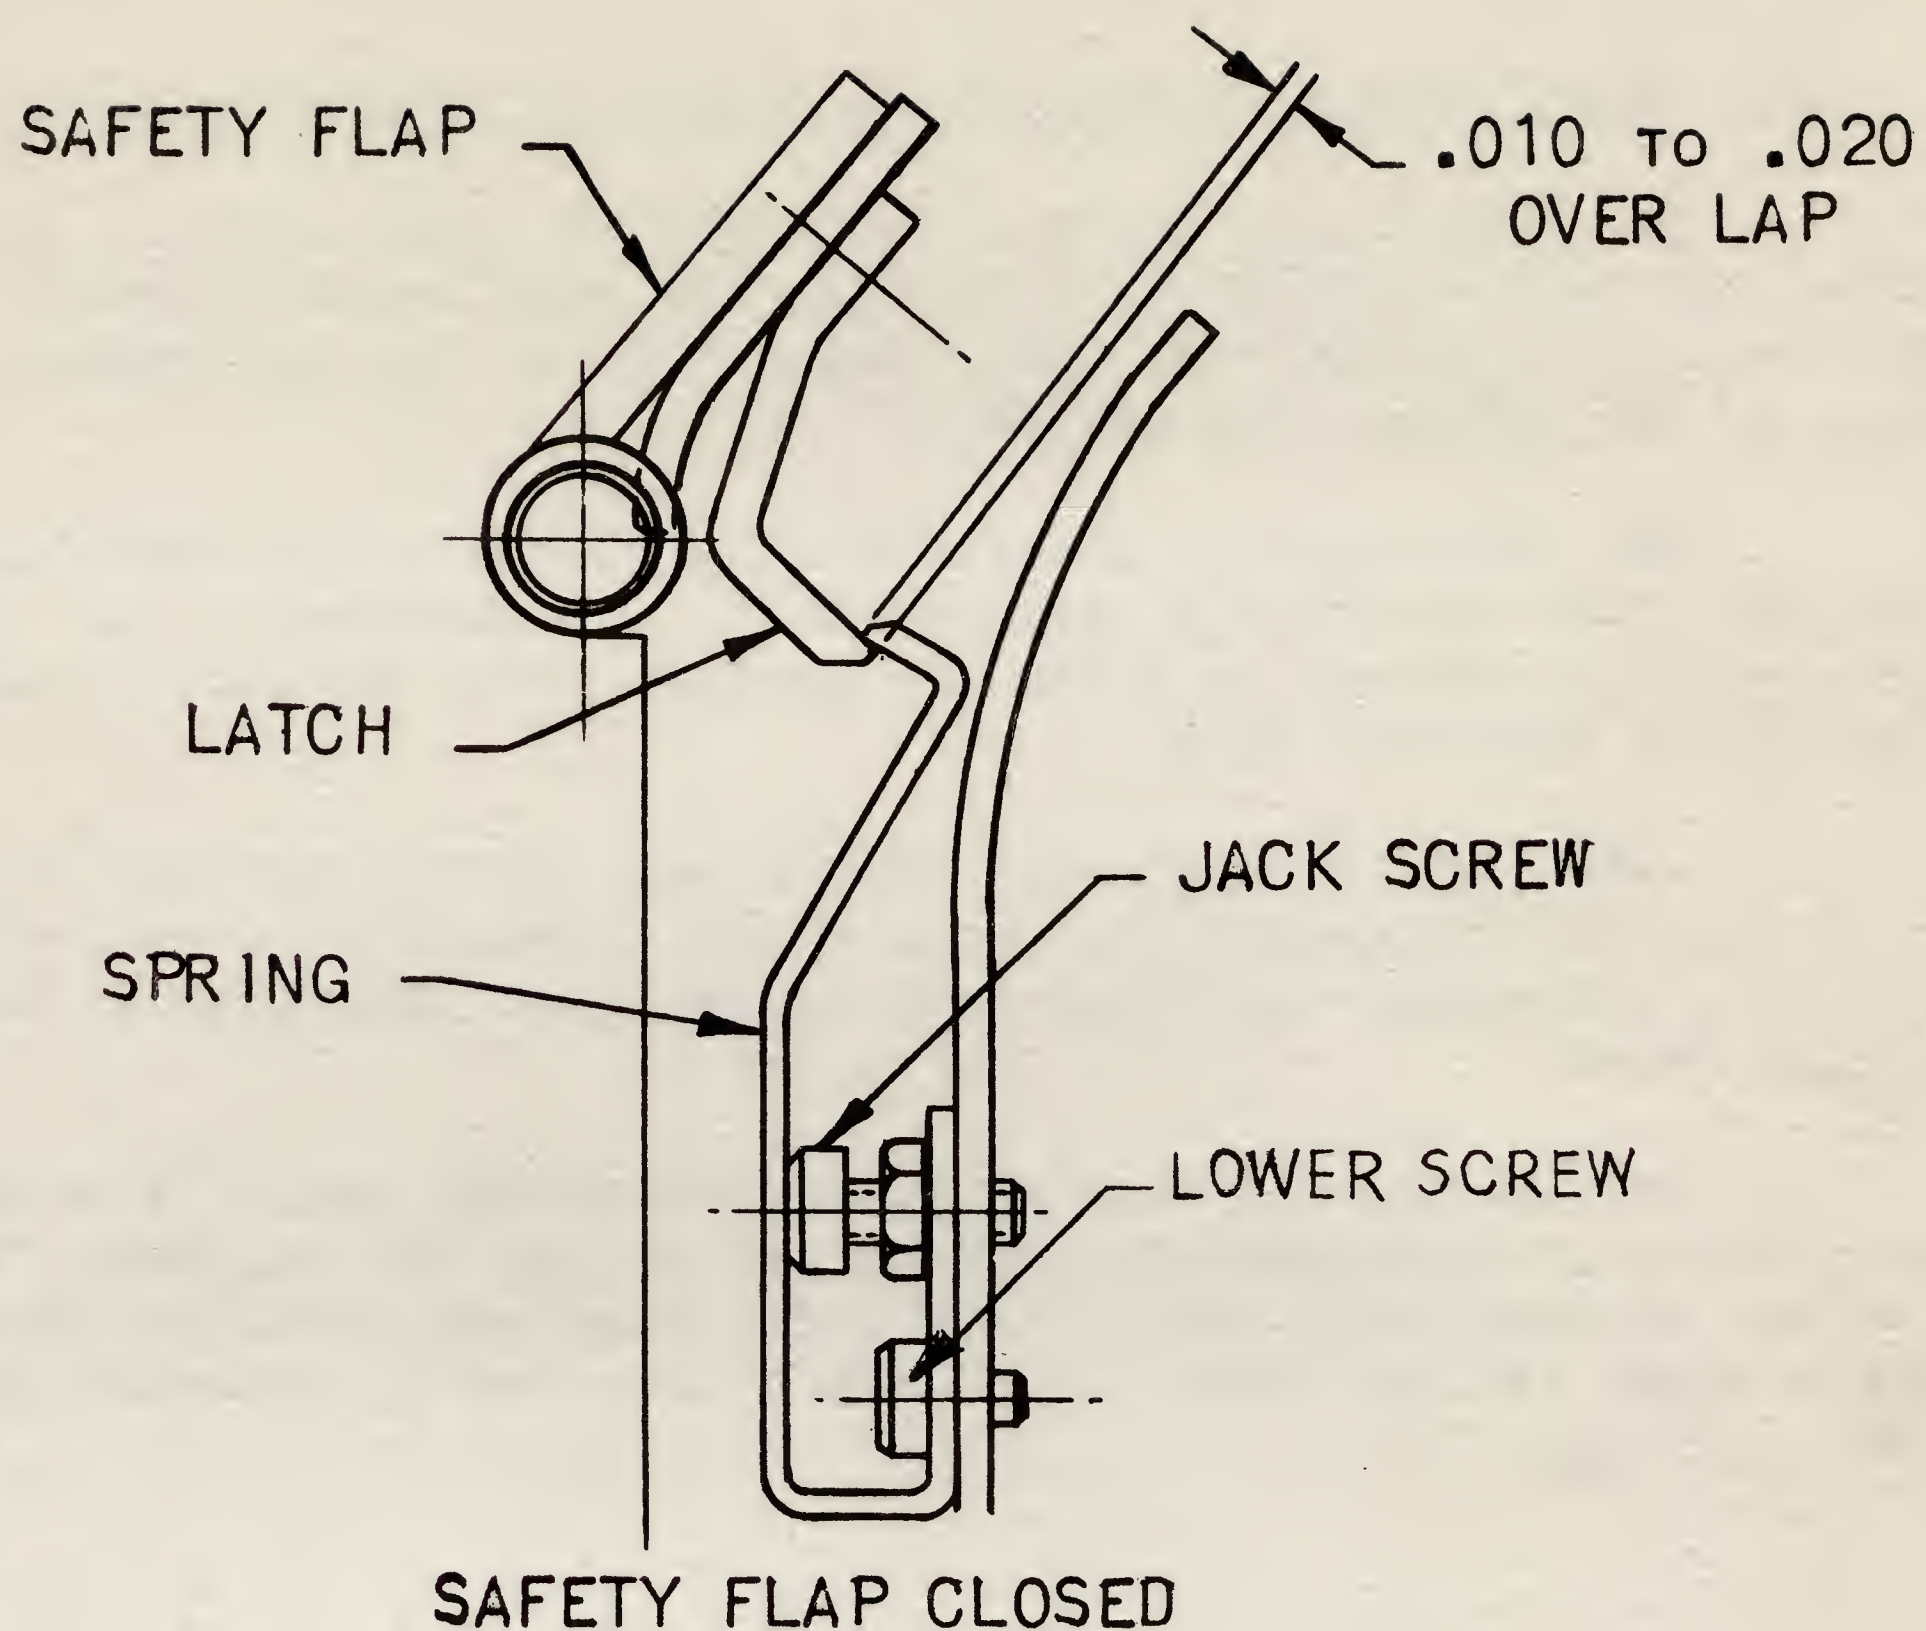

FIG.3A
5. The assembler entrance flap latch spring should overlap the latch in normal closed position by  $.010''$  to  $.020''$ . Adjust by means of the jack screw and the lower screw. (Fig. 3A.)